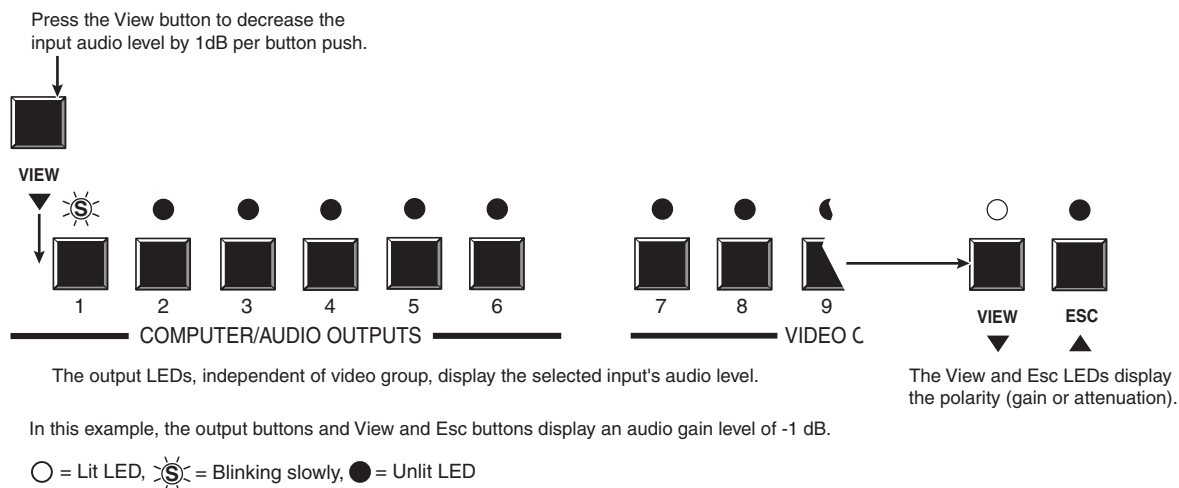

Figure 3-55 — Adjust the input audio level
4. Press and release the View (▼) button once (figure 3-55) to decrease the input audio level by 1 dB.
Press and release the View (▼) button several more times (figure 3-55) to decrease the input audio level by 1 dB per push of the button. Note the output button indication changes that occur each time the View (▼) button is pressed.
Figure 3-55 shows the result of pressing the View (▼) button a total of 9 times. Note that the level is now displayed in red to indicate a negative level.